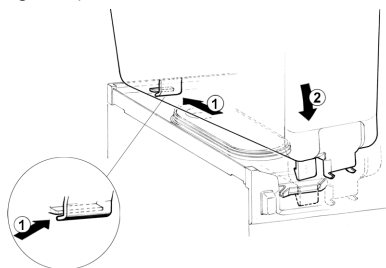

figure 8
**5** Place bowl on the unit. Wet the gasket for ease of insertion. Please take care that the hook on the backside of the bowl be inserted properly in its seat on the upper drip plate. (see figure 8).